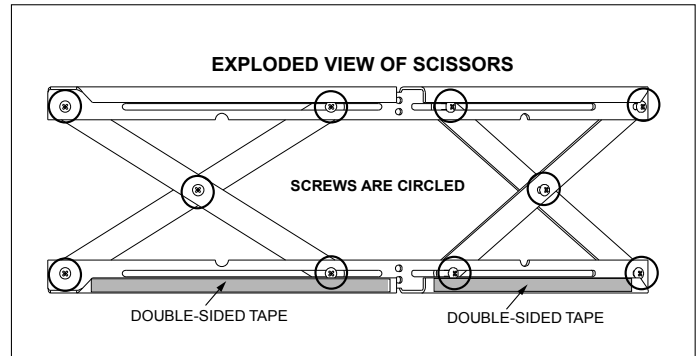

Figure 15.1
2. Expand scissors to desired height. Tighten screws to hold in place using Phillips head screw driver. **Figures 15.1 and 15.2.**